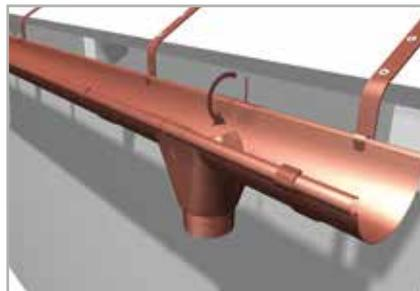

Fig. 28
- 3.12 Insert the outlet in the hole cut in the gutter and bend its back plates **(Fig. 28)**